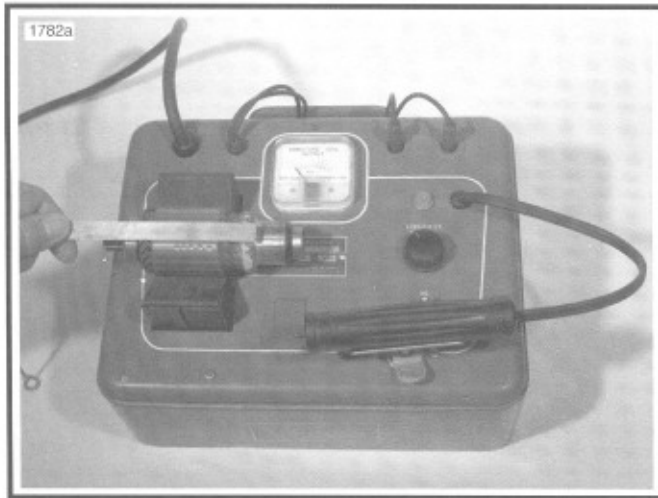

Figure 5-14. Shorted Armature Test Using Growler
9. See Figure 5-14. Check for **SHORTED ARMATURE** with a growler. Place armature on growler. Hold a thin steel strip (hacksaw blade) against armature core and slowly turn armature. A shorted armature will cause the steel strip to vibrate and be attracted to the core. Replace armatures if shorted.